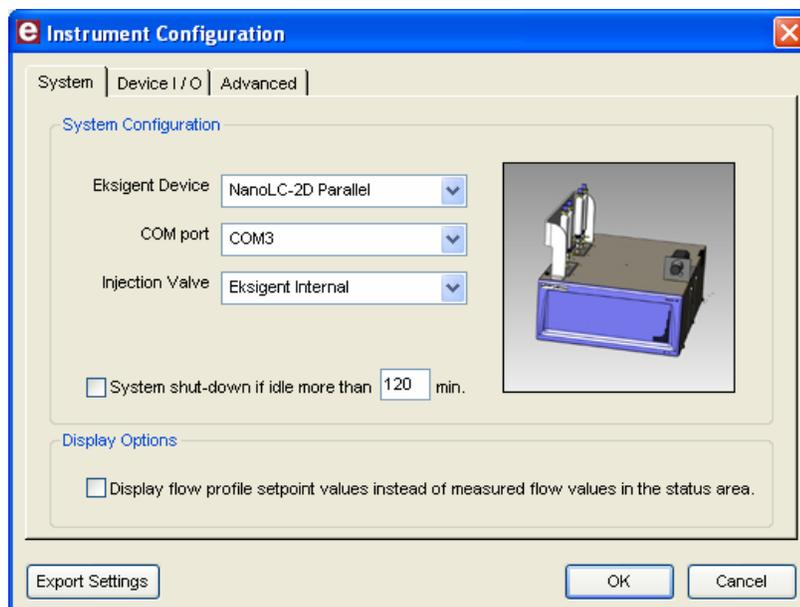

Figure 2-8. Instrument Configuration Window
- step 1* Launch the control software. The COM error in Figure 2-8 will appear. Click on 'Cancel.' A second window will appear (see Figure 2-7). Click on 'OK' to enter the software in DEMO MODE.
- step 2* Select **System > Instrument Config...** from the Control Software's Acquisition Window to access the **Instrument Configuration Window** (see Figure 2-8).
The **Instrument Configuration Window** (Figure 2-8) is used to indicate which components are installed. It also sets the communications protocol and configures the system to work with other connected devices. Several instrument performance parameters are also set in this window.